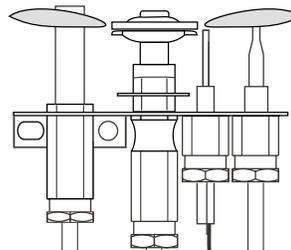

Figure 22. Pilot Burner.
2. Turn Adjustment Screw until flame is proper size. (See figure 22).